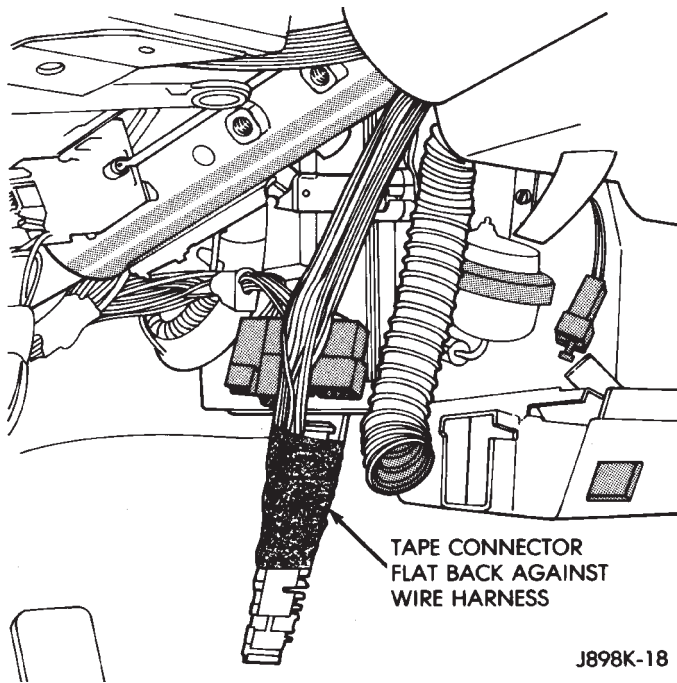

Fig. 14 Tape Wiper Switch Connector
(24) Pry up locking tabs of steering column connector and remove connector from column bracket.
(25) Tape connector to wires as shown (Fig. 14).